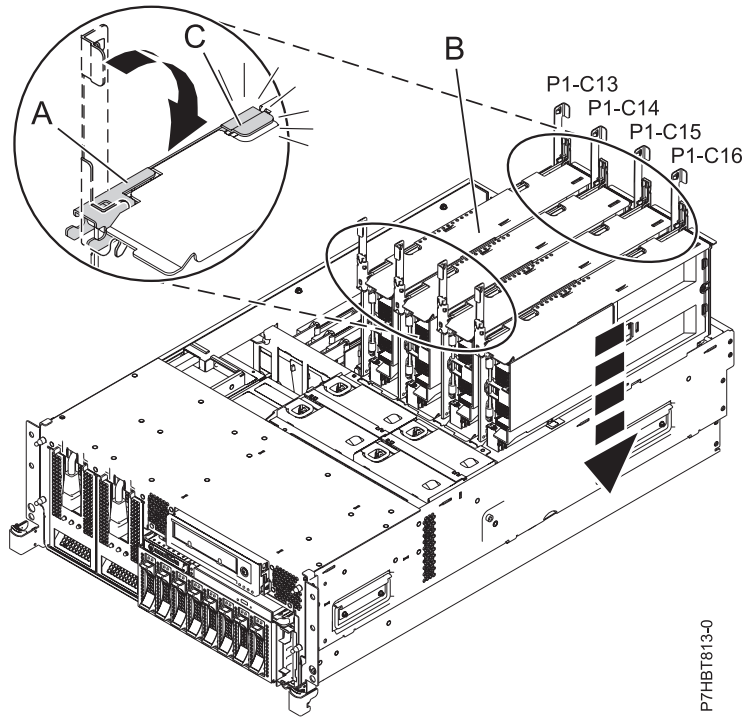

Figure 3. Installing the system processor in a rack-mounted system
12. With the latches (A) in the unlocked position, place the system processor assembly (B) into the system as shown in Figure 3.
13. Move each latch (A) in the direction of the arrow to lock the system processor assembly into position.